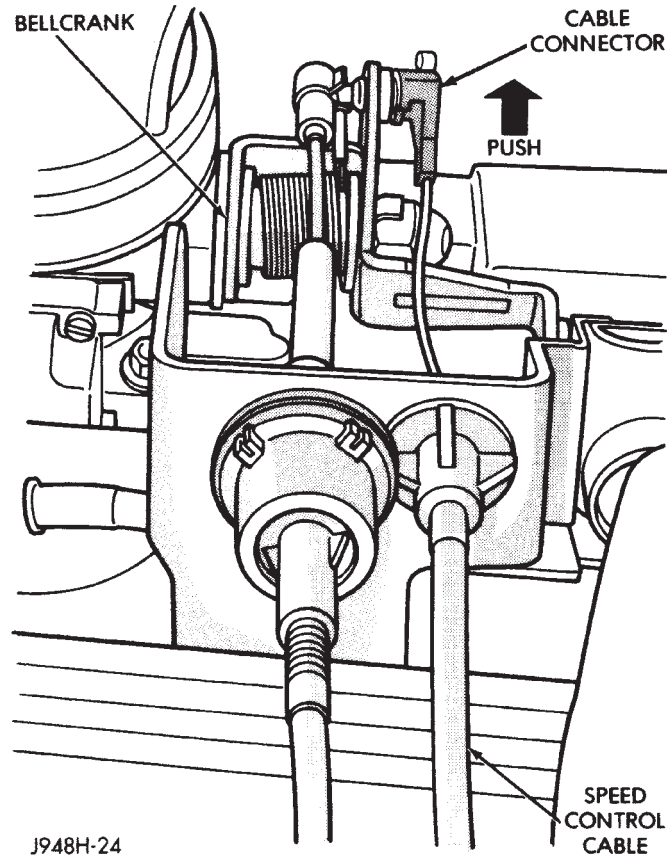

Fig. 11 Servo Cable to Bellcrank Remove/Install
- (1) Remove air cleaner.
- (2) Using finger pressure only, remove speed control cable connector at bellcrank by pushing connector off the bellcrank (Fig. 11). DO NOT try to pull connector off perpendicular to the bellcrank.